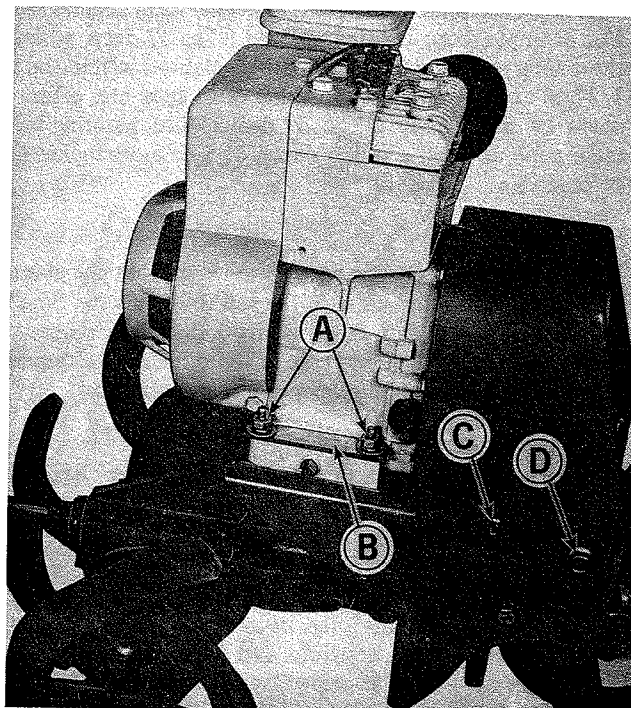
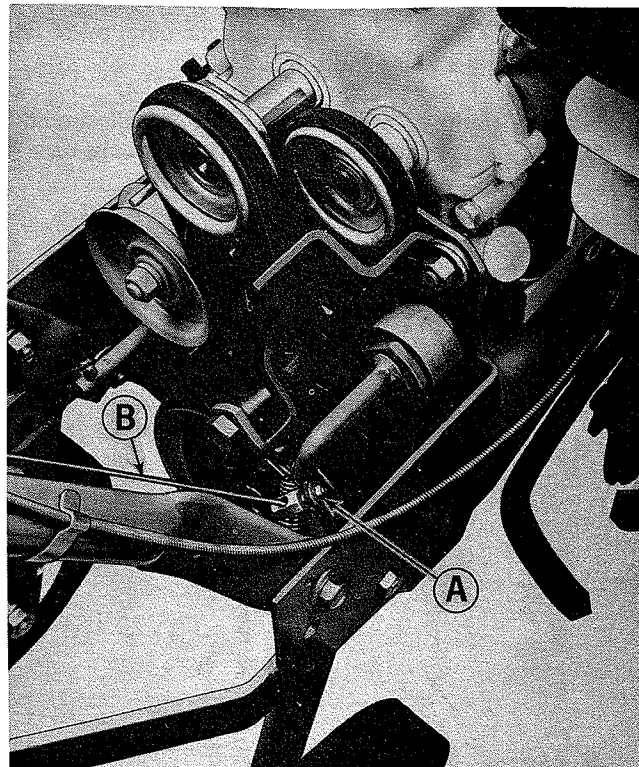

Figure 10. Roticul shown from left side.
Figure 11. Roticul drive shown with drive cover removed.
See figure 10. After some use the Roticul drive belts may become worn and stretch enough so that proper adjustment can no longer be made. It may be necessary to place additional shims under the engine to compensate for the additional belt length. Remove the nuts at (A) and place additional shims (B) under the engine. There are shims on both sides of the engine. Be sure to tighten nuts (A) securely after moving the shims.
After a period of use the reverse drive clutch may require adjustment. See figure 10. Remove capscrew (C) and loosen capscrew (D) slightly so the belt drive cover can be removed.
See figure 11. Loosen set screw (A) slightly and push wire (B) further through the wire clamp to increase belt tension. After making the adjustment, tighten set screw (A) and start the Roticul to check your adjustment. See figure 10. Replace the belt drive cover and capscrews (C), and tighten capscrews (D) securely.
If the Roticul tines will not stop turning when the forward and reverse drive clutch levers are released, the belt stops may need adjusting. See figure 10. Remove capscrew (C), and loosen capscrew (D) to remove the belt drive cover.